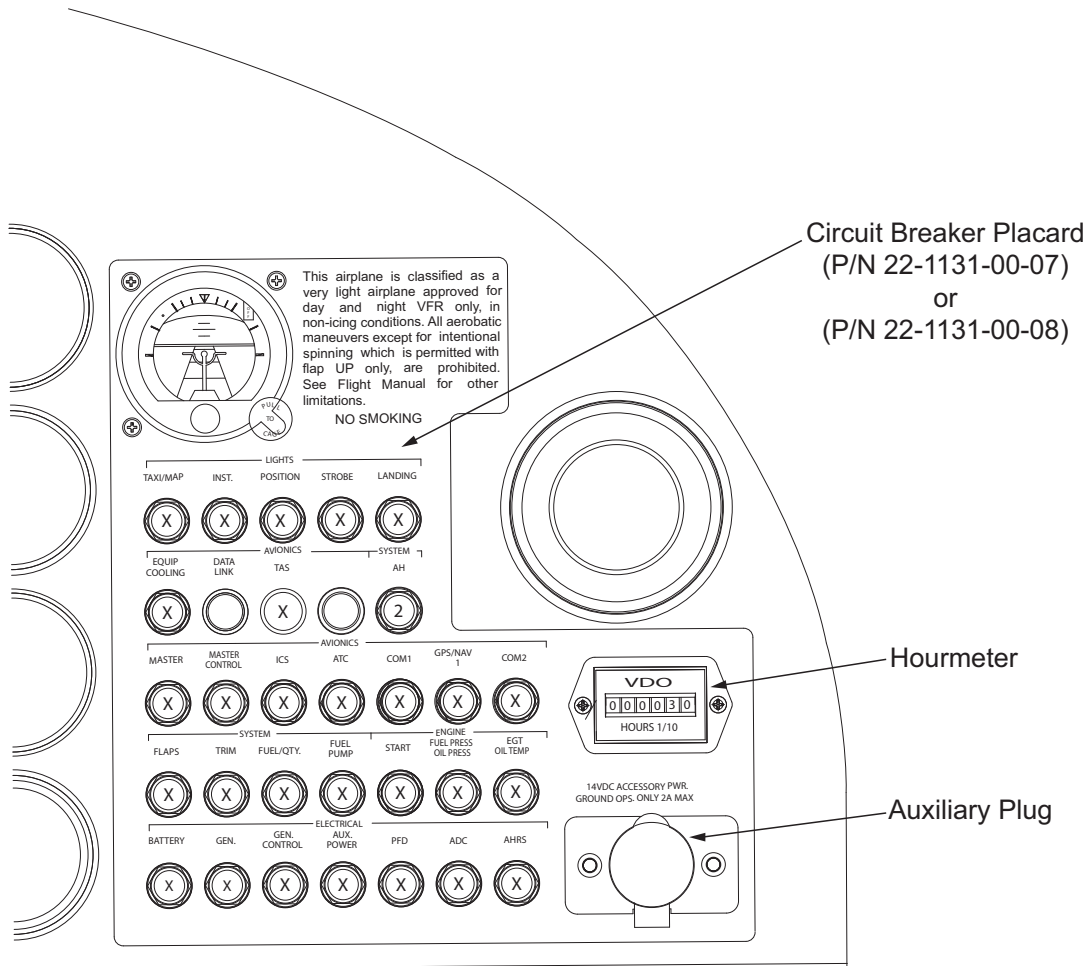

Figure 12
- 10.17 Install the hourmeter and the auxiliary plug outlet using existing hardware. Refer to Figure 12.